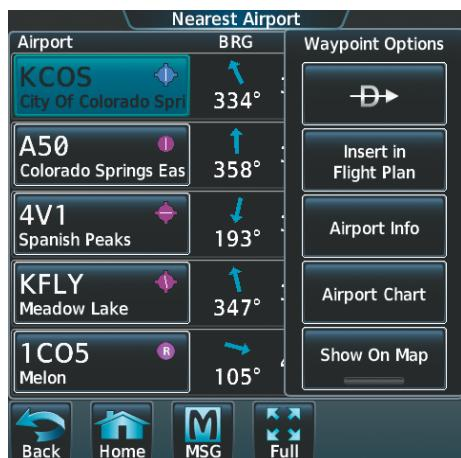

Figure 8-22 Nearest Airport Selection
The Aircraft Owners and Pilots Association (AOPA) or AC-U-KWIK Airport Directory databases offer detailed information regarding services, hours of operation, lodging options, and more for various airports. This information is viewed on the Airport Directory Info Screen as shown in Figure 8-22.
- 2) A list of the nearest airports to the aircraft present position is displayed, beginning with the closest. Touch the desired airport, in this case KCOS. The **Waypoint Options** buttons are displayed as shown in Figure 8-22.